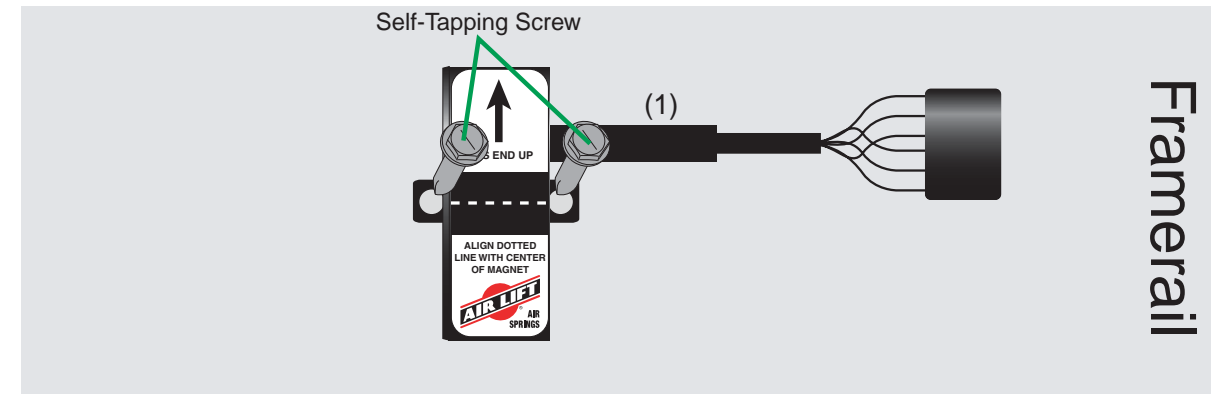

Figure 2
2. Using the provided screws and nyloc nuts, attach the height sensor bracket to the chosen frame-mounting location (Figure 2).